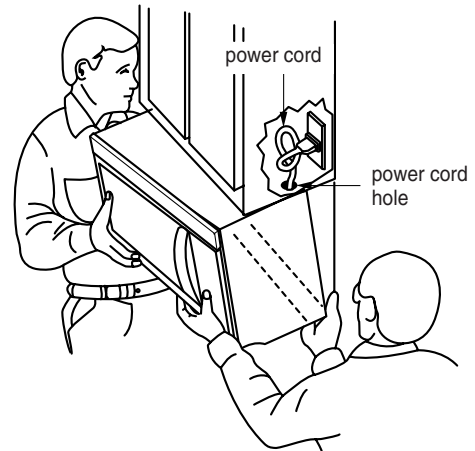

Figure 31
1. Carefully lift microwave oven and hang it on support tabs (See Figure 27) at the bottom of the mounting plate. Reaching through upper cabinet, thread power supply cord through the power supply cord hole in the bottom of the upper cabinet. See Figure 31.